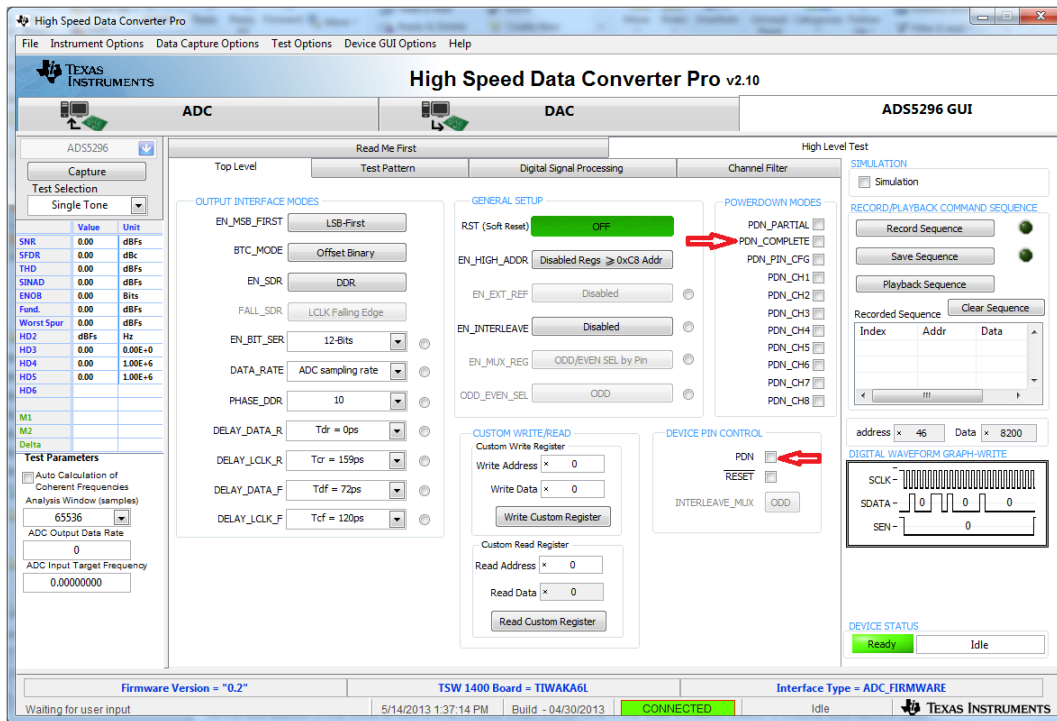

Figure 30. ADS5296 Plug-in GUI Setup (c)
Clicking on the *High Level Test* tab shows four sub-tabs: *Top Level*, *Test Pattern*, *Digital Signal Processing*, and *Channel Filter* as shown in Figure 30.
- Verify that communication between the ADS5296A EVM and the ADS5296 GUI is established by toggling either **PDN_COMPLETE** checkbox or the **PDN** checkbox highlighted on Figure 30. Checking either box should make +5-V power supply current drop from ~850 mA to ~563 mA. If the DC current is approximately 600 mA with both power down boxes unchecked, it indicates that the ADS5296A is not receiving the sampling clock. Please ensure that the 3-pin headers are configured as described in Section 3.2. Before continuing, ensure that both power down boxes are left unchecked. At this point, the GUI is confirmed to be communicating correctly with the EVM and testing can begin.